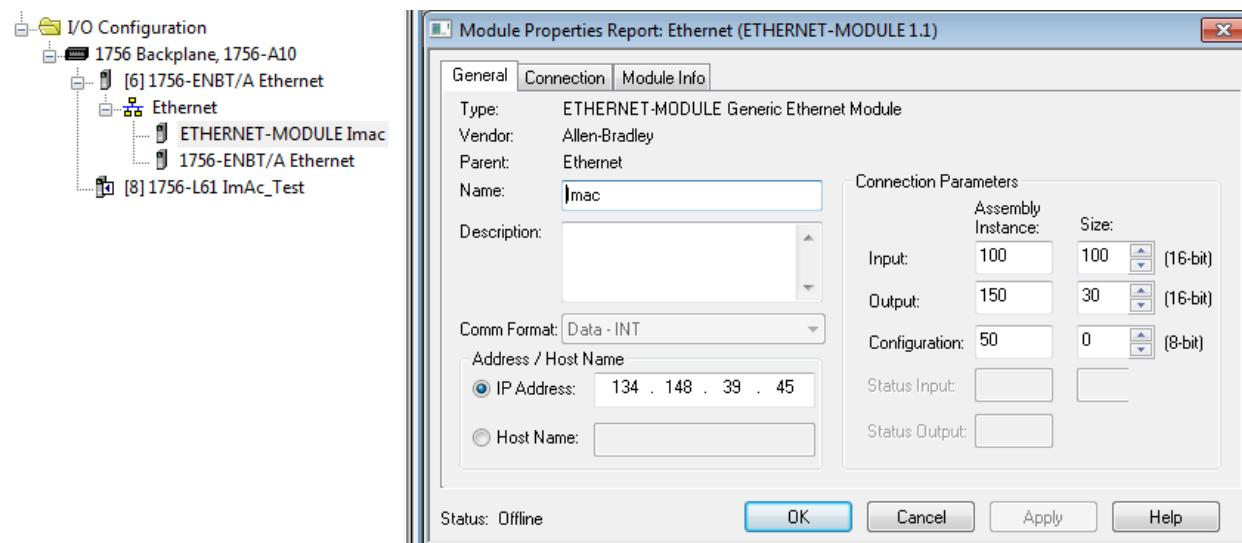
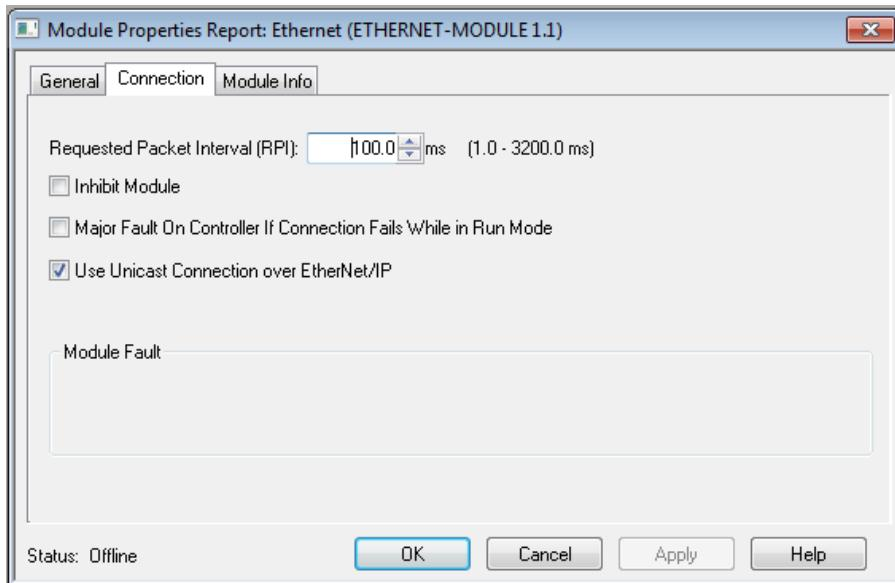

Figure 6: Generic Ethernet Module setup for iMAC2 EIP data.
Figure 7: Connection parameter setup.
- Creation of a Generic Ethernet Module in the RSLogix5000 I/O Configuration tree. This is shown in Figure 6 and Figure 7.
The “Use Unicast Connection over EtherNet/IP check box needs to be ticked, and the appropriate RPI needs to be entered, as follows in Figure 7.